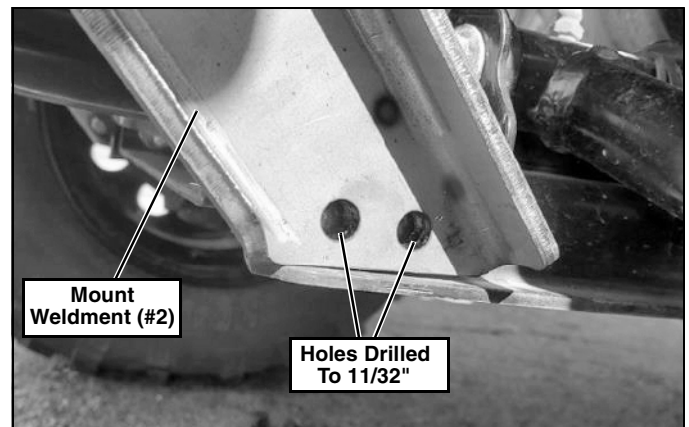

Figure 7
- Use the holes in the lower rear of the Mount Weldment (#2) as a drilling template. On the Driver Side, mark the center of the hole, then center punch and drill pilot holes. Drill the holes to 11/32". (See Figure 7.)